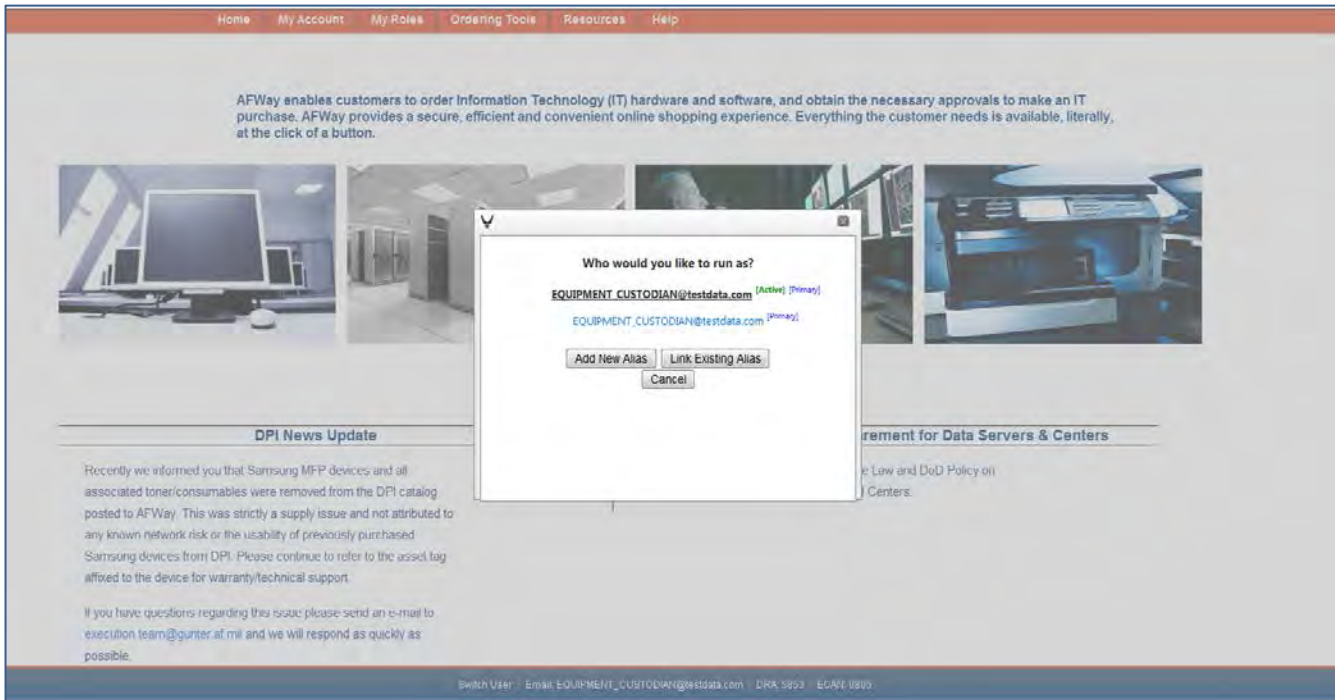

Figure 4 - Multiple Account Logon
Step 7: If you wish to add a **NEW** alias (refer to figure 4), you are requested to provide justification and then click "Associate."